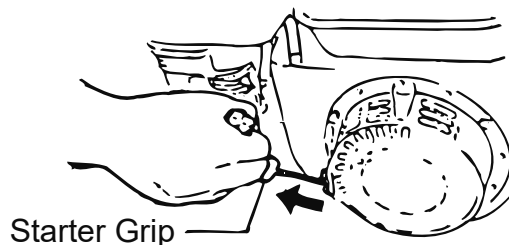

Fig. 17
5. Grip the starting knob of the recoil starter. When you pull the rope a little, you will feel some resistance. Then pull it at a stroke. Be careful not to pull the rope too strongly, or the rope may break or come off. (Fig.17)